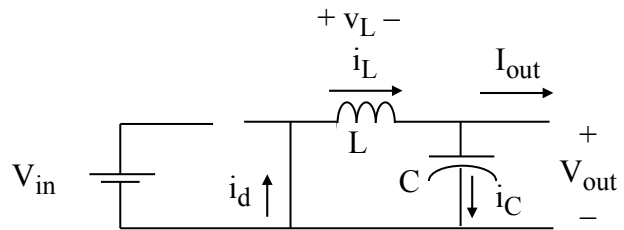
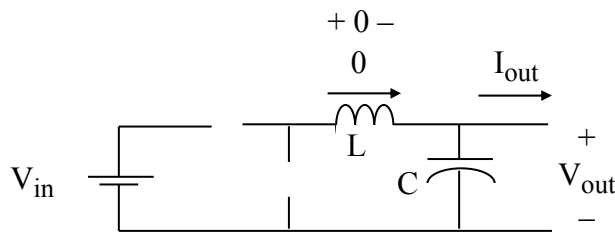

Figure 2b. Switch Open for $(1-D)T$ Seconds (Continuous Conduction)
Figure 6. Third State for Discontinuous Conduction
$$\frac{di_L}{dt} = \frac{v_L}{L} = \frac{-V_{out}}{L}, \quad DT < t < T, \quad \text{[KVL, from Figure 2b.]} \quad (3)$$
At low load periods, the converter may transition into the discontinuous conduction mode. Referring back to Figure 2b, this occurs when the inductor current decreases to zero. At that moment, the capacitor attempts to reverse i_L and “backfeed” the inductor, but reversal is prevented by the freewheeling diode (for this discussion we will ignore the practical effect of diode reverse recovery current). Thus, the freewheeling diode opens, and the circuit assumes the state shown in Figure 6 until the switch closes again. During this third state, all load power is provided by the capacitor.